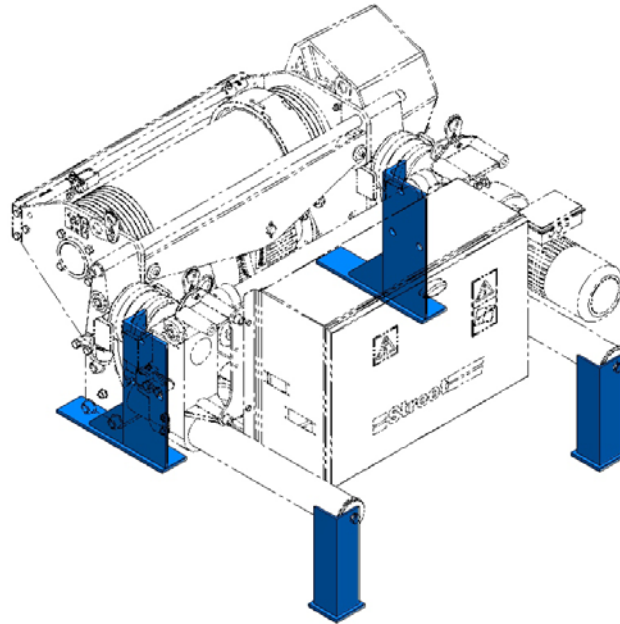

Figure 19 – Low Headroom Hoist Transportation Feet
- Remove the four blue transportation feet from the hoist legs (Figure 19).